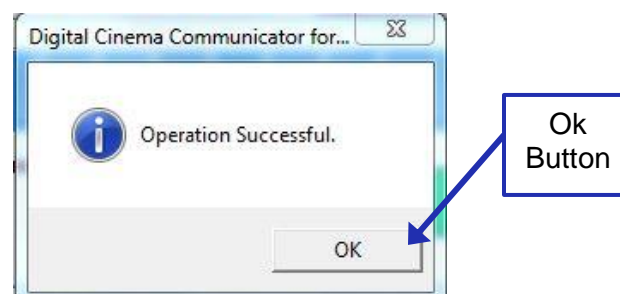

Figure 39: Operation Successful Window
- A window will appear stating that the operation was successful. Click Ok (Figure 39).